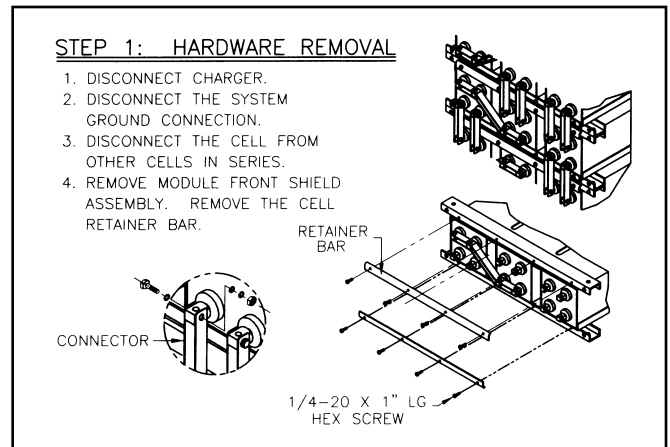

Fig. 25
2. Refer to Fig. 25 through 28, pg. 15) for specific instructions.